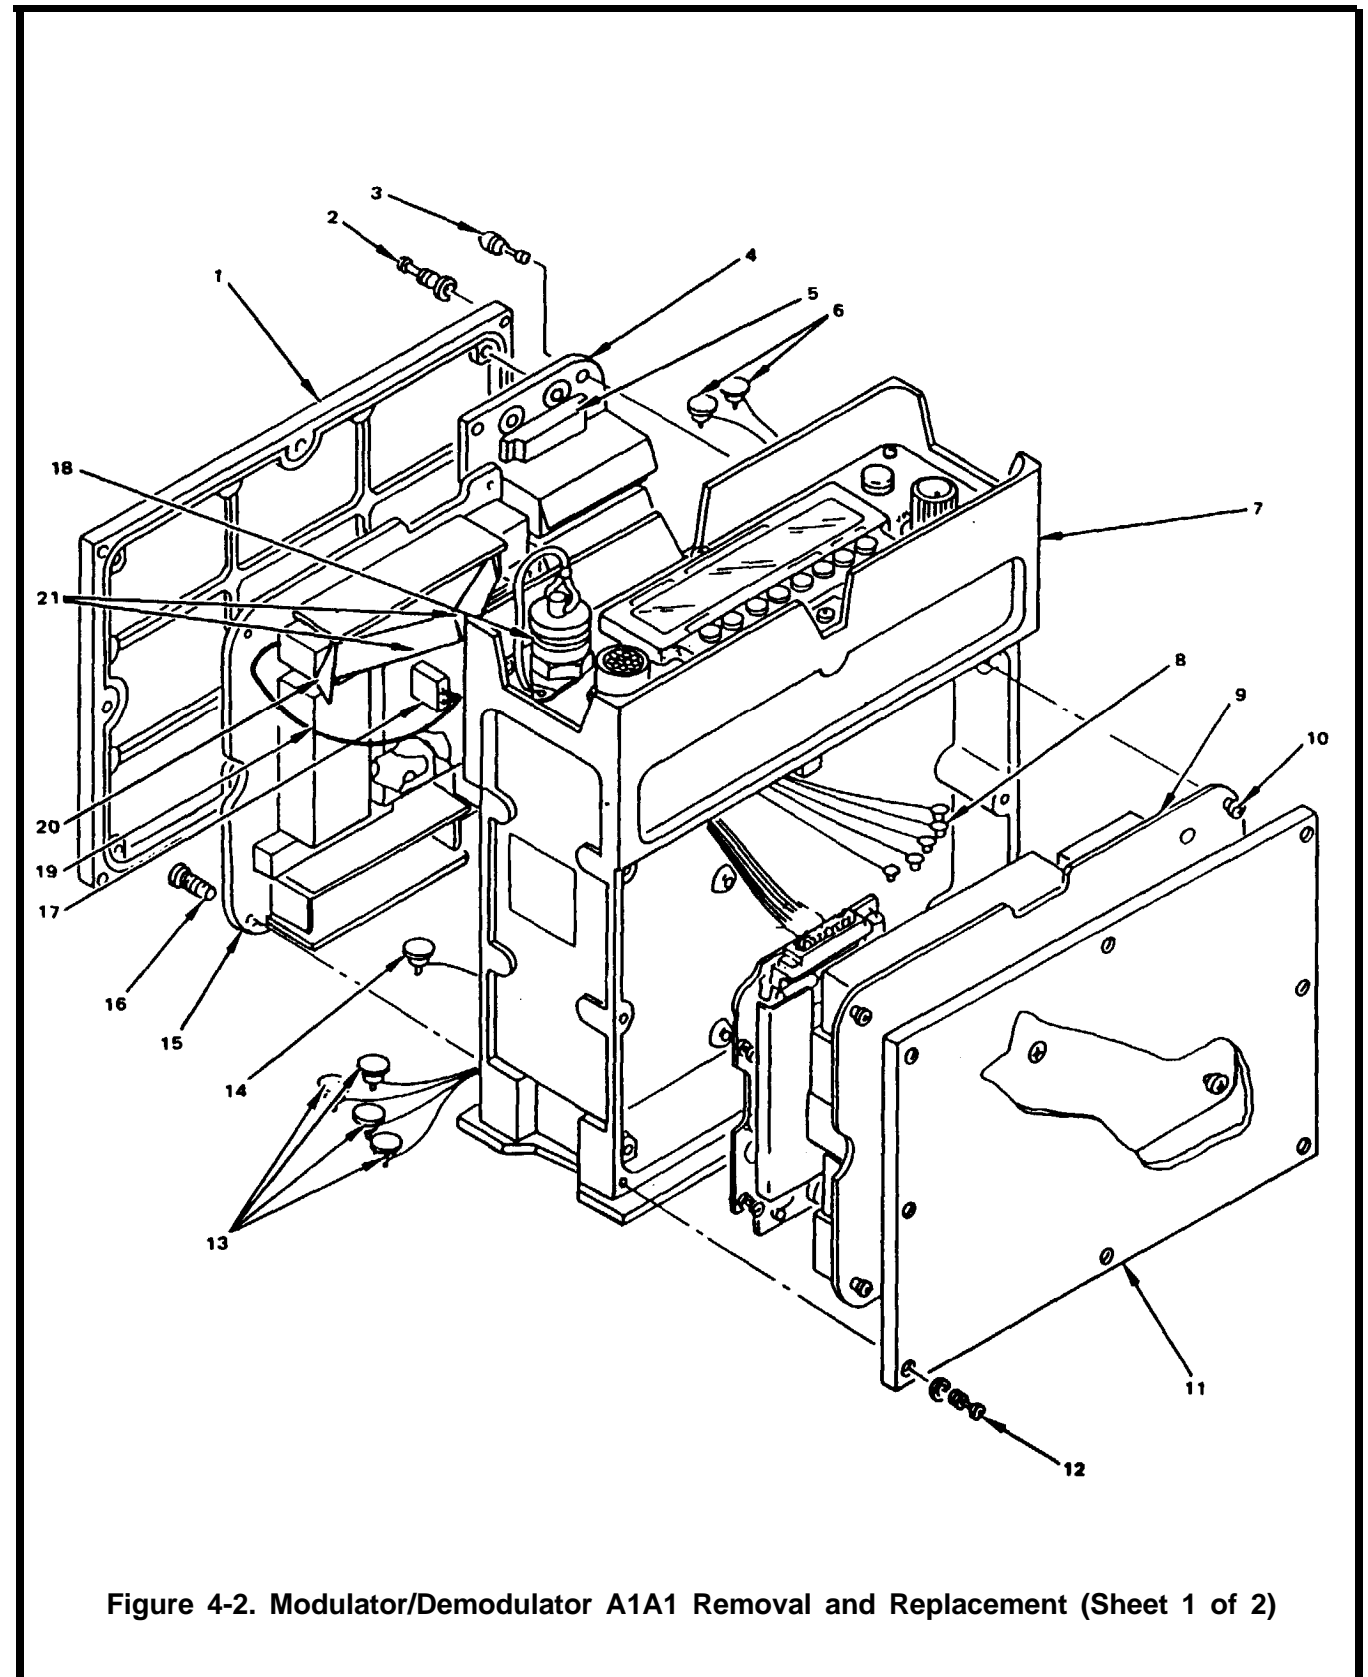

Figure 4-2. Modulator/Demodulator A1A1 Removal and Replacement (Sheet 1 of 2)
**MODULATOR/DEMODULATOR A1A1 REMOVAL AND REPLACEMENT (2 of 2), fig 4-2**
1. Replace 10-pin connector (17) and tighten screw using correct size hex key.
2. Reconnect rf cable W6P2 (14).